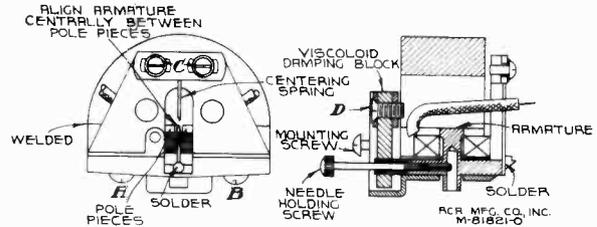

Figure 6—Details of Pickup
**Centering Armature.**—Refer to figure 6 showing the pickup inner structure. The armature is shown in its proper relation to the magnet pole pieces, i. e., exactly centered. Whenever this centering adjustment has been disturbed it will be necessary to remove the pickup mechanism from the tone arm by removing the needle holding screw and the two mounting screws from the front of the tone arm, holding the pickup assembly to keep it from dropping. Unsolder the two leads from the lugs on the terminal board at the rear of the pickup. Insert a small rod or nail into the armature needle hole and replace the needle holding screw, tightening it to hold the rod securely. If the armature clamping screws A and B have not been disturbed, screws C should be loosened which will permit the armature to be moved from side to side, the rod acting as a lever to perform this operation. The proper adjustment is obtained when the armature is moved to the extreme position on each side (the movement being